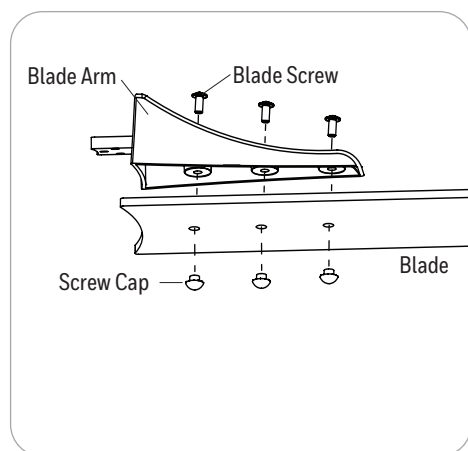

Figure 5.4
4. Insert the blade screw through the blade arm, blade and into the screw cap. Tighten each blade screw with a Phillips screwdriver (not included) starting with the one in the middle. Repeat this step for the remaining blades and blade arms (Figure 5.4).